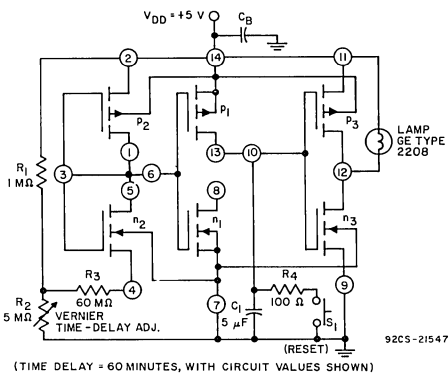

Fig. 26—Analog timer using CA3600E.
The CA3600E is useful in the design of analog timer circuits. A typical circuit is shown in Fig. 26. For purposes of explanation, let it be assumed that capacitor C_1 initially is in a completely discharged condition; terminal 10, therefore, is initially at ground potential and transistor N_3 is non-conductive. The circuitry at the left of terminal 10 provides a source of constant-current flow through P_1 to charge capacitor C_1 increasingly positive with respect to ground. After the passage of time (T), capacitor C_1 is charged sufficiently in the positive direction so that transistor N_3 is driven into conduction by its gate and the lamp is lighted to signify the end of the time-delay period. The circuit is reset by momentarily closing switch S_1 to discharge capacitor C_1 through R_4 . Resistor-divider network R_1, R_2 establishes the supply voltage to a constant-current network comprised of resistor R_3 and the series-connected COS/MOS pair N_2, P_2 , biased for linear operation by resistor R_b as previously described. This combination is connected to the gate terminal (No. 6) of
A variant of this complementary current mirror is used in the analog timer circuit shown in Fig. 26. Transistors P_2 and N_2 are series-connected together with a 60-megohm resistor to establish their drain current at 5 nA. The potential developed across terminals 1 and 2 also appears as the gate-source voltage for transistor P_1 , thereby establishing a mirror-current source of 5 nA at terminal 13 to charge capacitor C_1 linearly. In this circuit, the "mirrored" current-sink available at terminal 8 (transistor N_1) is unused. This type of current-mirror configuration is exceptionally stable with temperature variations.